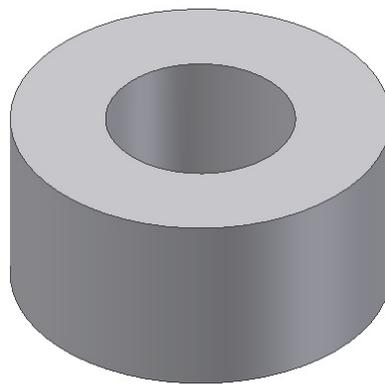

Figure 8-155 Model after creating the hole feature
- Create a hole concentric with the base feature, refer to Figure 8-155.
1. Invoke the **Hole** tool and create a through hole of diameter 10 mm on the base feature. Figure 8-155 shows the hole feature created on the base feature.